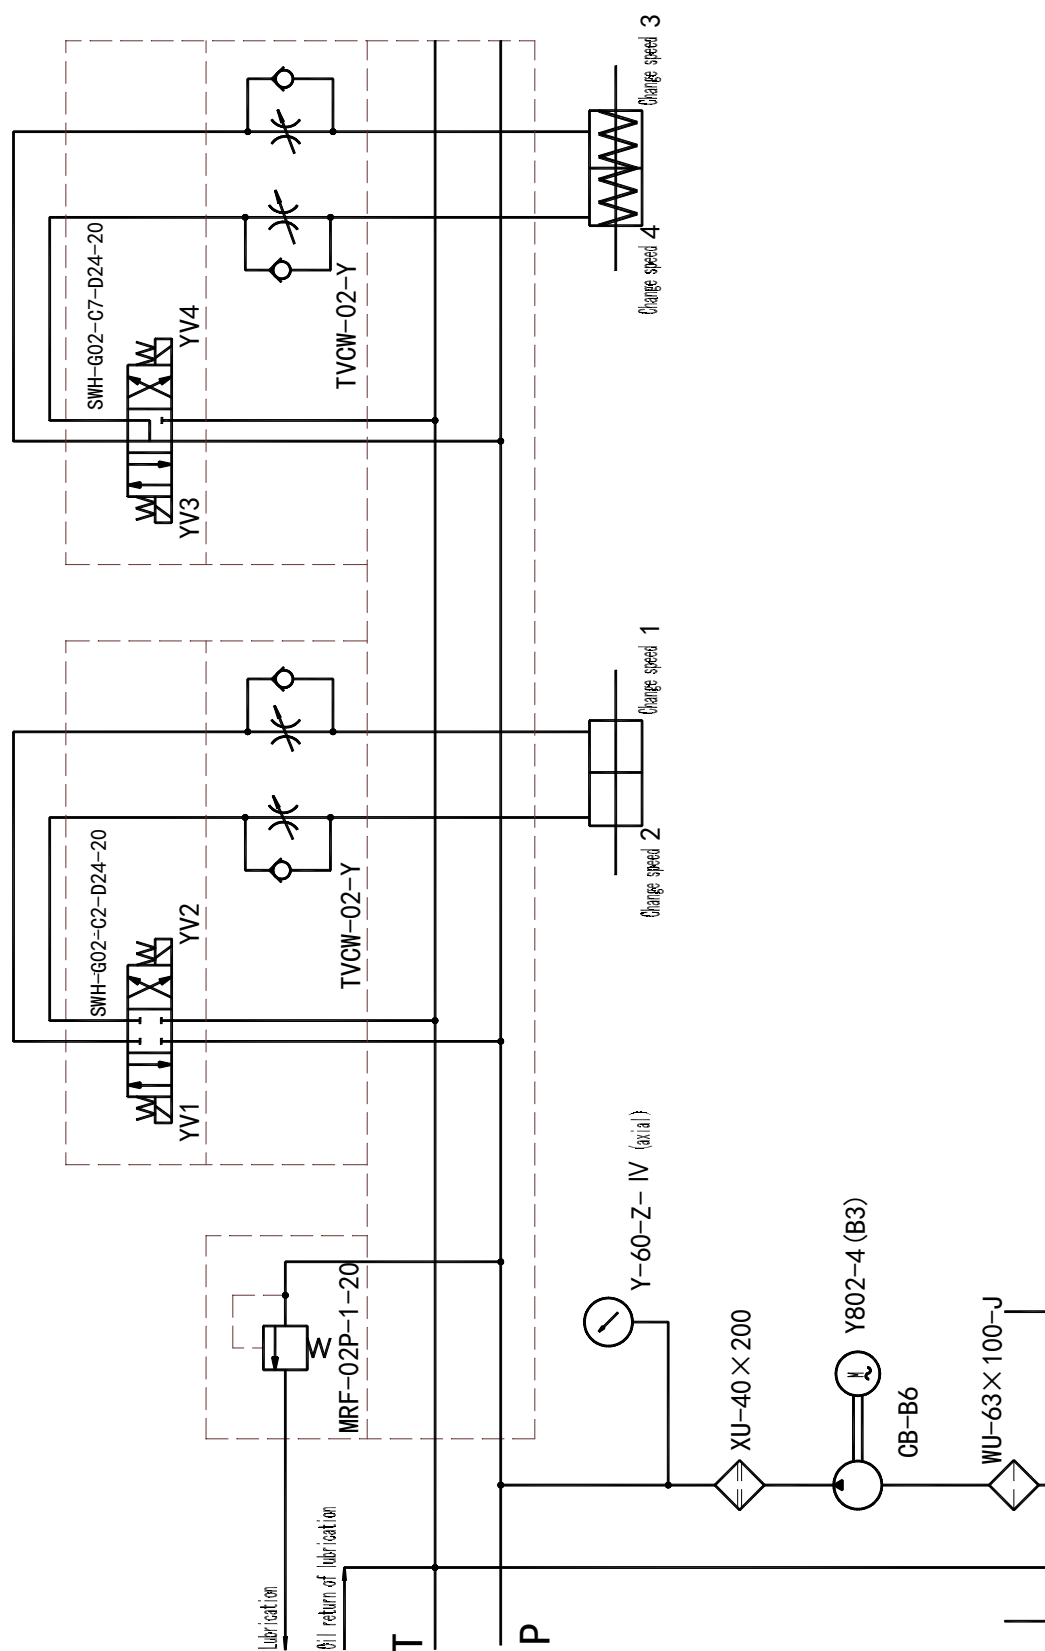

Fig.5 Diagram of change speed of spindle and lubricating principle
- For the principle, the component and the acting order of the whole hydraulic system, refer to the Principle Diagram for hydraulic system (Fig.5).